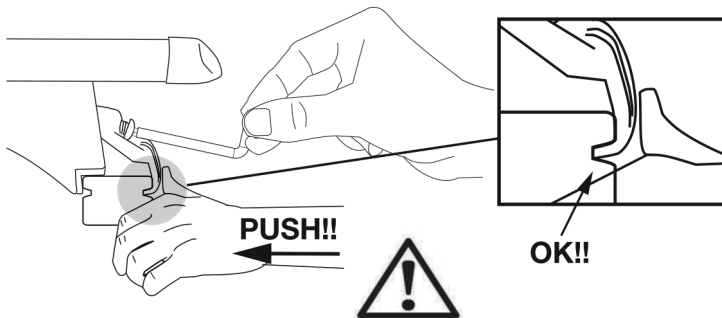

Fig. 7
4. We advise pushing the feet firmly into the contour of the roof rail as shown in Figure 7.